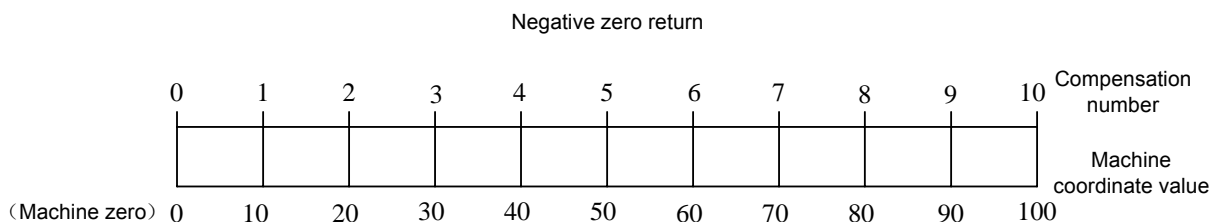

Fig. 4-7-2
- B. The machine's zero return direction is negative. The machine coordinate system's least value in the area is 0, the compensation number of 0 point is No. 0, which is shown in Fig. 4-7-2):